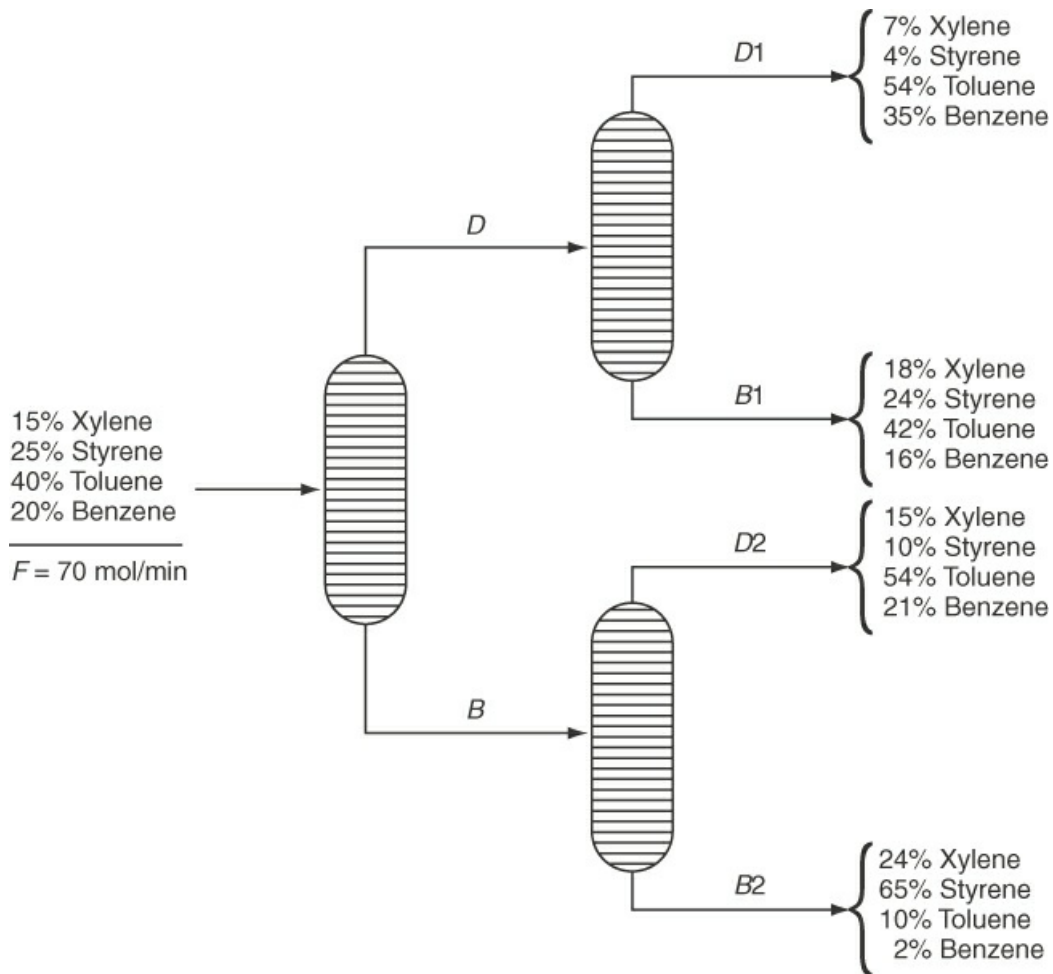

Figure P5.2.1
****5.2.1** Examine Figure P5.2.1, provided through the courtesy of Professor Mike Cutlip.